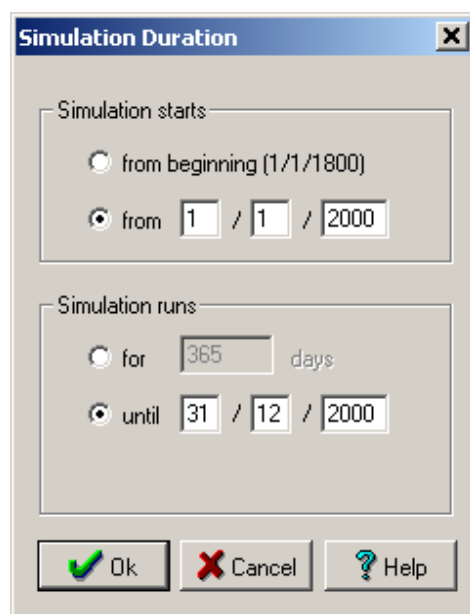

Figure 1.13 Simulation Duration Edit Box
2. From the drop-down menu, select ‘**Initialise Module**’ to open the ‘**Simulation Duration**’ edit box (Figure 1.13)